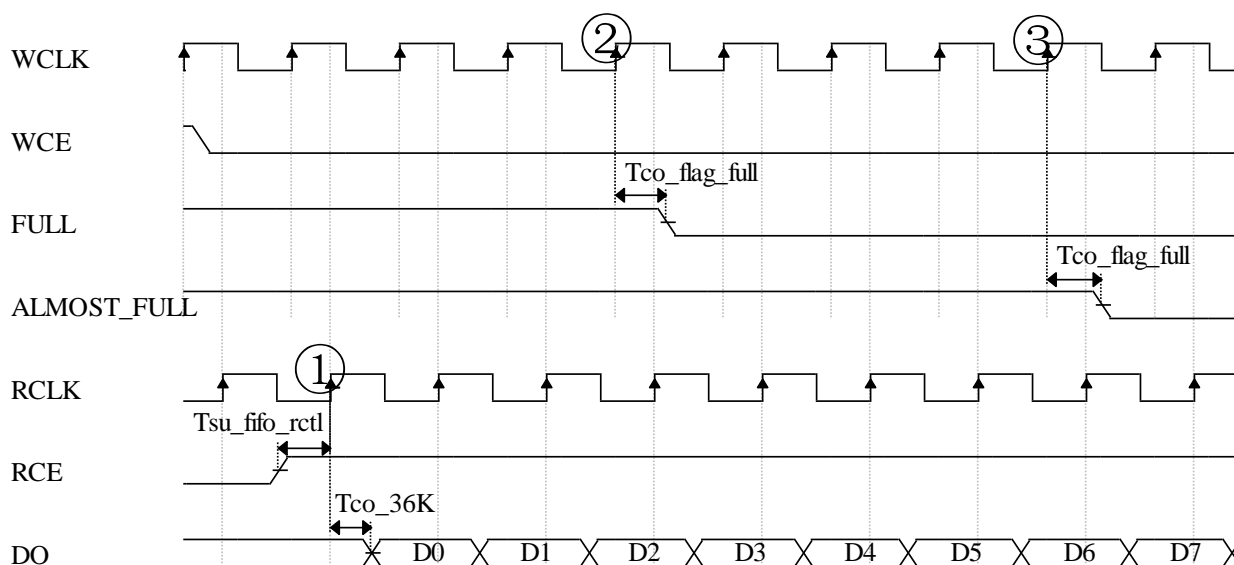

Figure 7-6 Read Timing from Full Asynchronous FIFO
The FULL signal indicates that the FIFO is full. After valid data is read out with RCE, in synchronous FIFO mode, the FULL signal is set to "0" after 1 CLK clock cycle; in asynchronous FIFO mode, the FULL signal is set to "0" at the 3rd WCLK clock rising edge (rising edge ② in Figure 7-6) after valid data is read out (rising edge ① in Figure 7-6). When RCE remains active, the ALMOST_FULL signal is cleared with a delay (rising edge ③ in Figure 7-6) based on the configuration of ALMOST_FULL_OFFSET. If the rising edge of WCLK is close to that of RCLK, the FULL and ALMOST_FULL signals may be cleared with an additional delay of one WCLK clock cycle.
Figure 7-6 shows the read timing from full asynchronous FIFO: